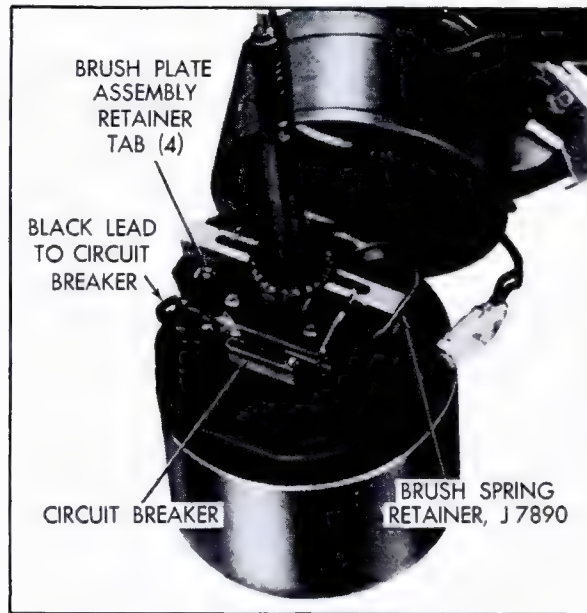

Fig. 12-20 Detaching Brush Plate
5. Unsolder the black lead from circuit breaker, Fig. 12-20.
6. Straighten out either set of two brush plate retainer tabs that retain the brush plate to the field coil retainers, Fig. 12-20.
7. Install Brush Spring Retainer, J-7890, over brush holder that has brush lead attached to circuit breaker, Fig. 12-20.
cedure. Solder and tape these joints. Refer to Fig. 12-20.
brush holder; then position the brush plate assembly on the mounting tabs in the position shown in Fig. 12-20.
8. Remove brush retainer clips and resolder circuit breaker ground lead to circuit breaker, Fig. 12-20.